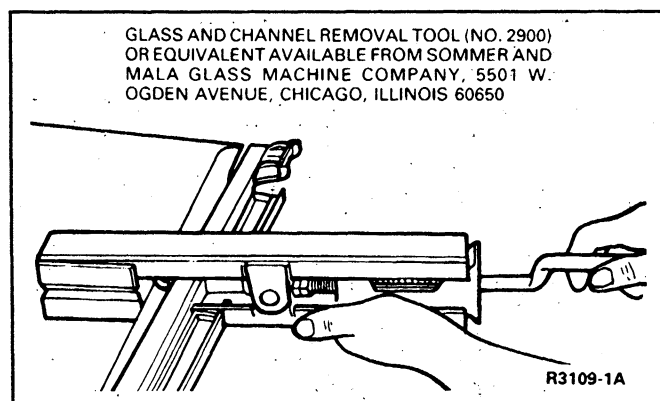

FIG. 3 Glass Channel Replacement
9. Remove the glass channel from the glass using Glass and Channel Removal Tool 2900 or equivalent (Fig. 3).
1. Install the glass channel onto the glass using Glass and Channel Removal Tool 2900 or equivalent (Fig. 3).
7. Remove the glass from the glass channel using Glass and Channel Removal Tool 2900 or equivalent (Fig. 3).